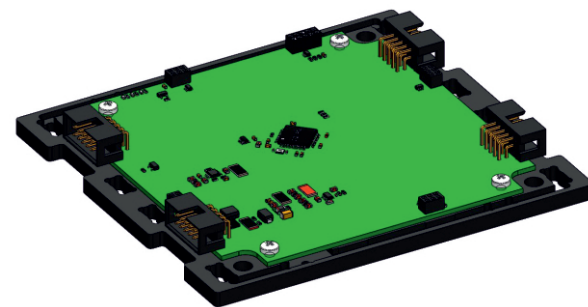

Fig. 11: Installing the circuit board
1) Mount the general-purpose board on the bottom plate (marked as “SS↓”), then secure the board with four M3x6 cylindrical-head screws (Fig. 11):